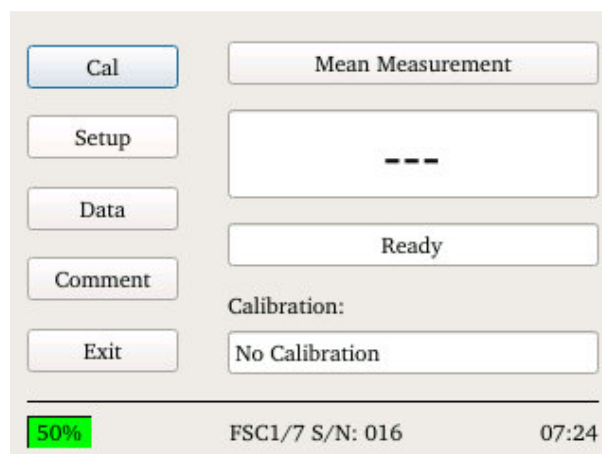

Figure 3: Desktop of control and display module
- The charging status of the rechargeable battery pack in use is displayed in the bottom left corner on the control and display module, see Figure 3. The status of charging is given as green from 20 to 100 percent and red for lower than 20 percent. When the status is 0 percent then the control and display module is shutting down.
- The connection to the hand-held module is realized, when at the bottom of the display the serial number of the hand module is shown (see Figure 3). Then the system is ready to use.